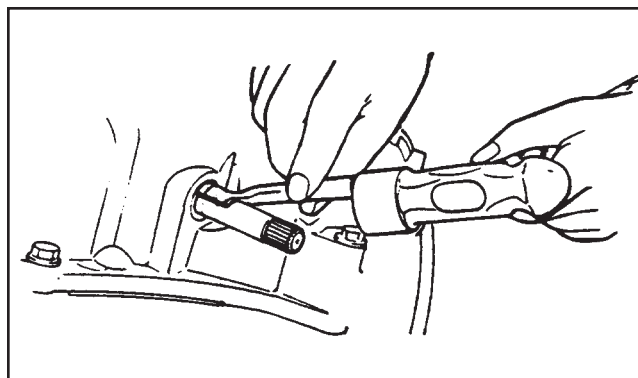

Figure 4D-7. Installing Release Shaft/Fork Bushings
2. Drive in release shaft/fork bushings to the same level as outside surface of transmission housing as shown in Figure 4D-7.